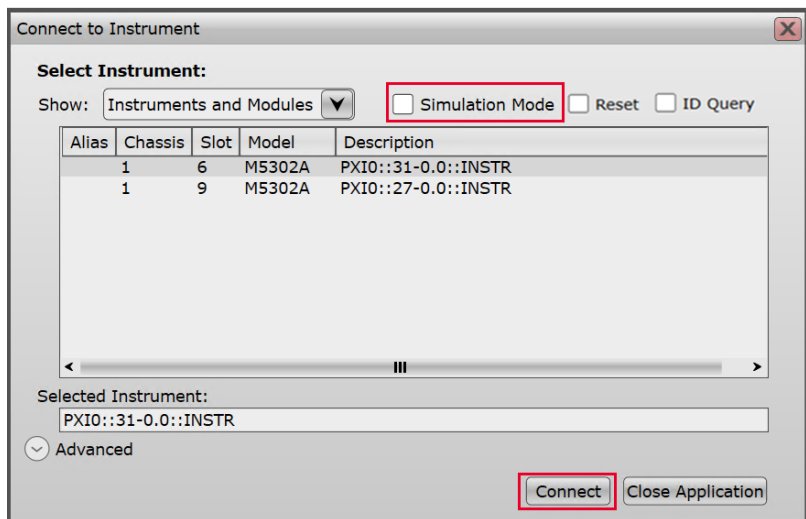

Figure 37 Connect to Instrument with "Simulation Mode" disabled
- 'Simulation mode' disabled—This is the active mode of SFP operation and is available when the **Simulation Mode** check box is manually cleared. The **Simulate** button is replaced with the **Connect** button on the **Connect to Instrument** window, as shown in Figure 37. In this mode, only the active modules are displayed along with the respective chassis number, slot number and VISA address.